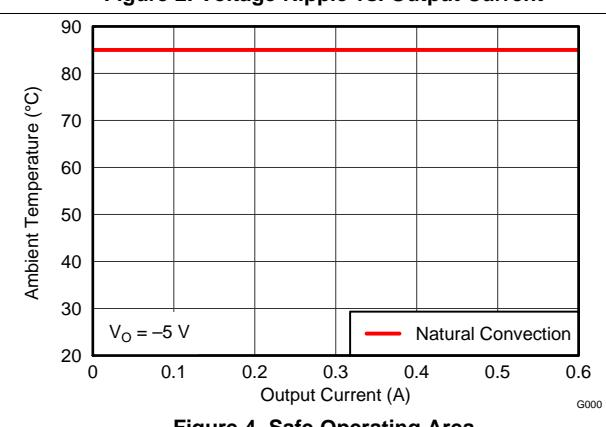
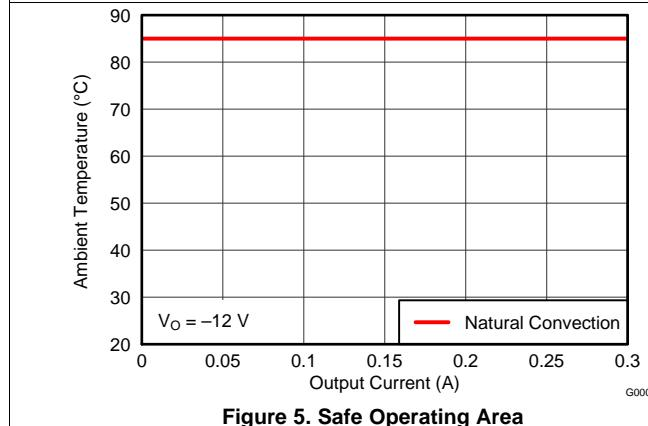

Figure 4. Safe Operating Area
Figure 5. Safe Operating Area
- (2) The temperature derating curves represent the conditions at which internal components are at or below the manufacturer's maximum operating temperatures. Derating limits apply to devices soldered directly to a 100 mm × 100 mm, 4-layer, double-sided PCB with 1 oz. copper. Applies to Figure 4, Figure 5, and Figure 6.